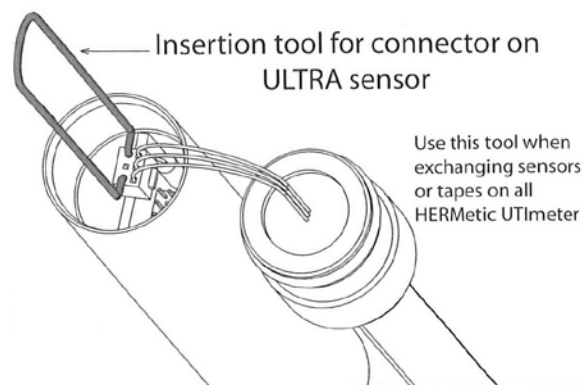

Figure 10-8
- Refer to Figure 10-8.
- With one hand keep the sensing probe and the tape adaptor as shown on Figure 10-8.
- With the other hand drive the plug into the new sensor tube with the Insertion tool to connect it to the sensing probe socket. Note this is a one way only plug. The wires shall be on the opposite side of the electronic circuit print as shown on Figure 10-8.